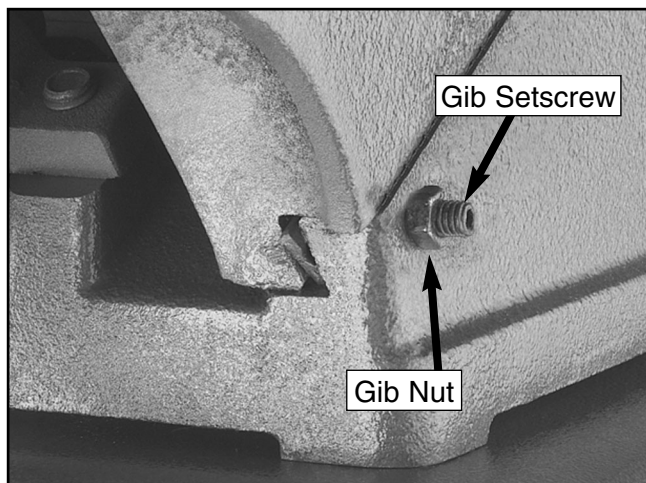

Figure 33. Outfeed table gip nuts.
1. Using a 12mm wrench, loosen the two outfeed table gip nuts on the side of the jointer base (**Figure 33**).